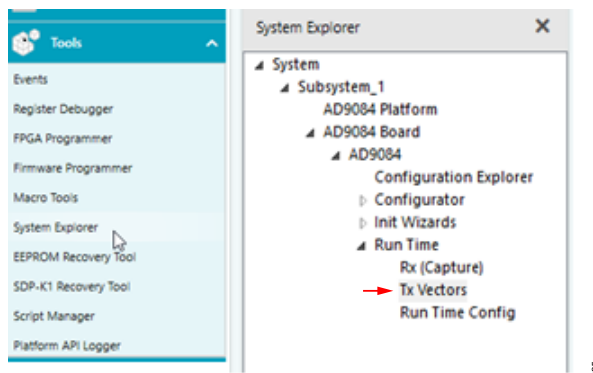

Figure 25. System Explorer
2. Alternatively, enable **System Explorer** from the **Tools** tab, expand the **Run Time** section, and select **Tx Vectors** (see Figure 25).